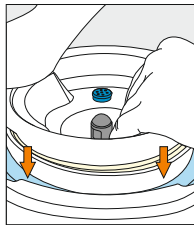

Figure 40
2. Using the palms of both hands, push the DryGuard™ straight down into the reservoir (Figure 40).